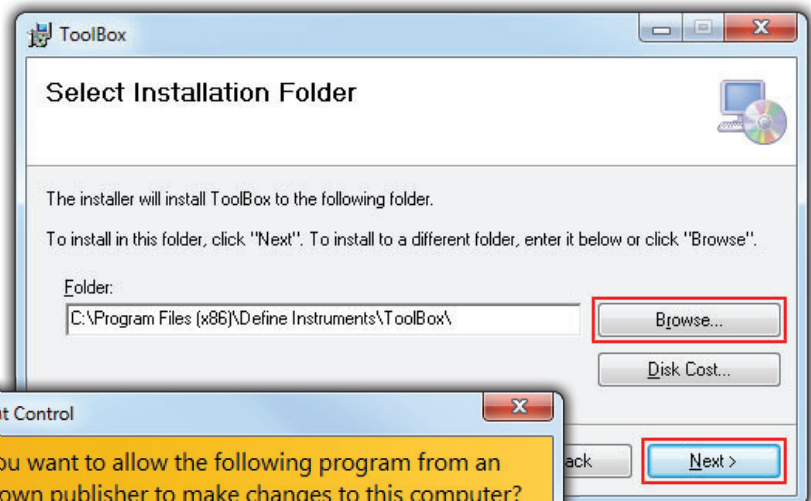

Fig 4
- F** Next the wizard will prompt you to select an installation folder (Fig 4). You may accept the default installation folder, or select an alternative location by clicking '**Browse**'.